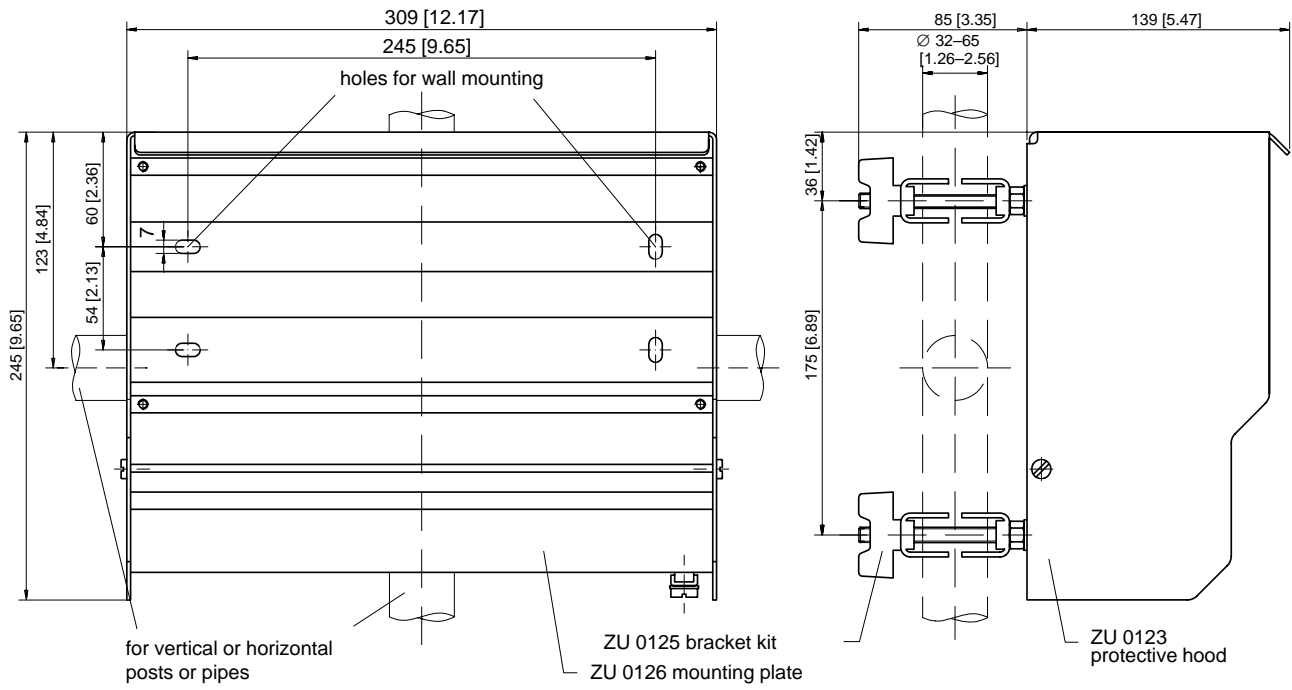

Fig. 1-2 Dimension Drawing ZU 0126 Mounting Plate and ZU 0123 Protective Hood
- With ZU 0126 mounting plate and ZU 0125 bracket kit, the instrument can also be post or pipe mounted. For dimension drawing, see Fig. 1-2.
- ZU 0123 protective hood provides additional protection against direct weather exposure and mechanical damage. For dimension drawing, see Fig. 1-2.